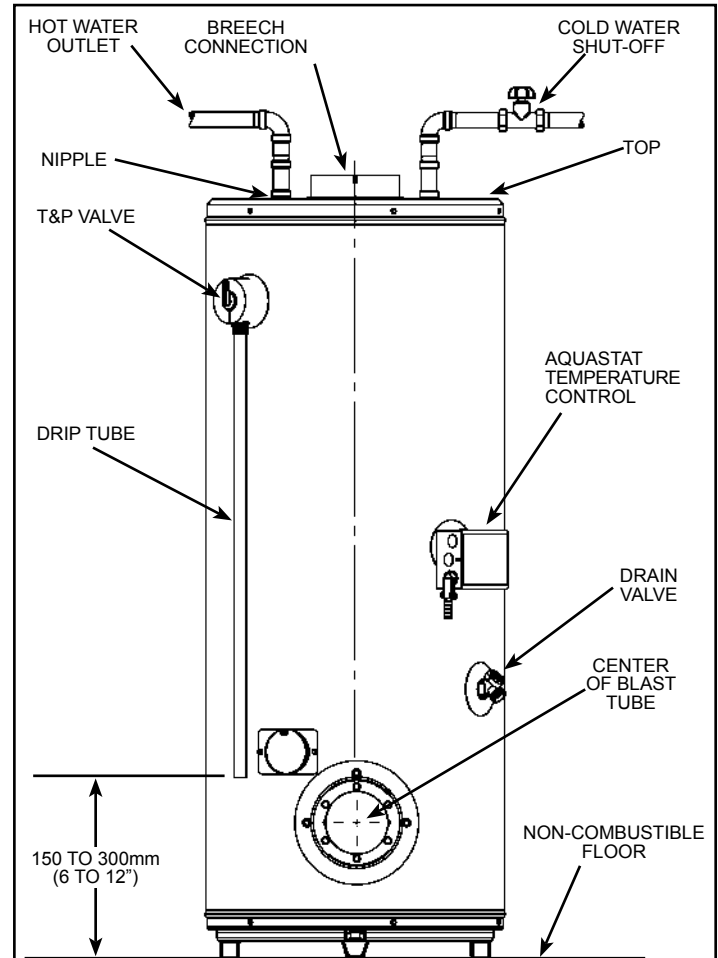
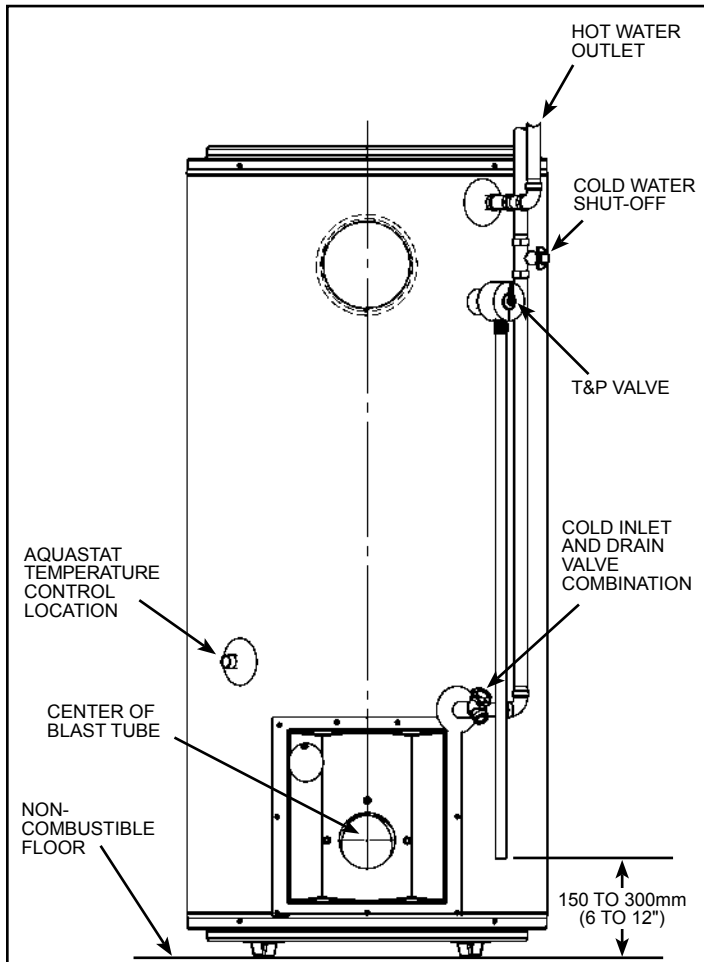

Figure 6. Plumbing Connections (Center Flue)
Figure 7. Plumbing Connections (Center/Rear Flue)
Piping, fittings, and valves should be installed according to the applicable installation drawing (Figure 6 and Figure 7). A pressure-reducing valve and/or an expansion tank may be required for installations where the water pressure is high. The pressure-reducing valve should be located on the supply to the entire house in order to maintain equal hot and cold water pressure.
1. Install the water piping and fittings as shown in Figure 6 or Figure 7. Connect the cold water supply to the unmarked fitting (3/4" NPT). Connect the hot water supply to the fitting (3/4" NPT) marked "HOT" (or "H").